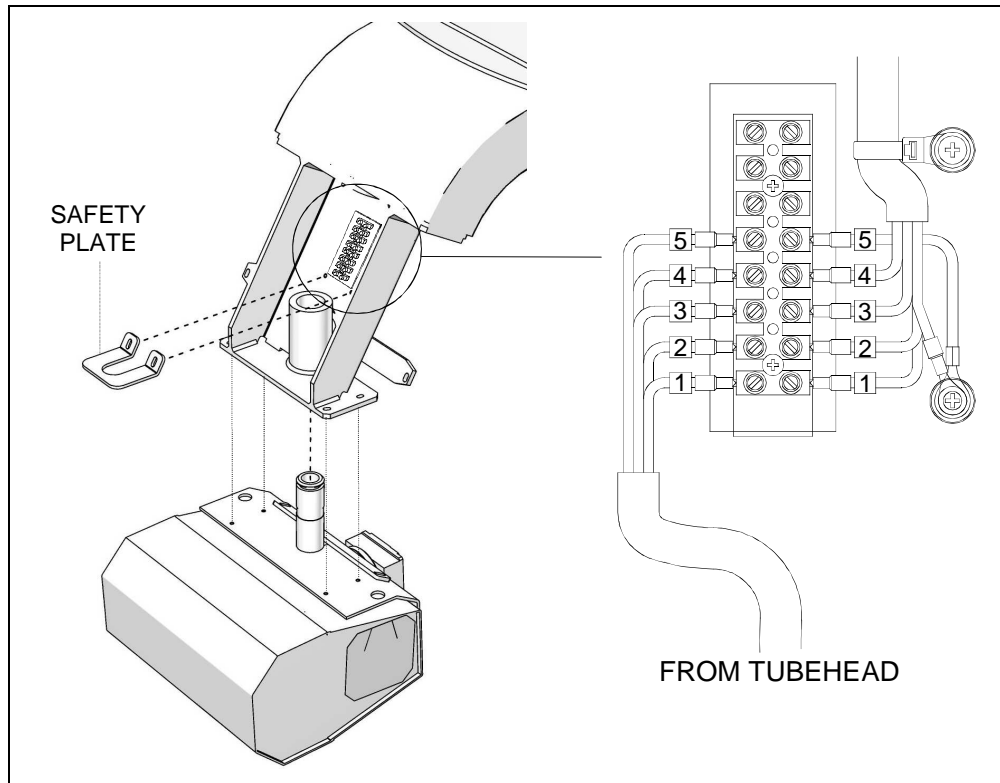
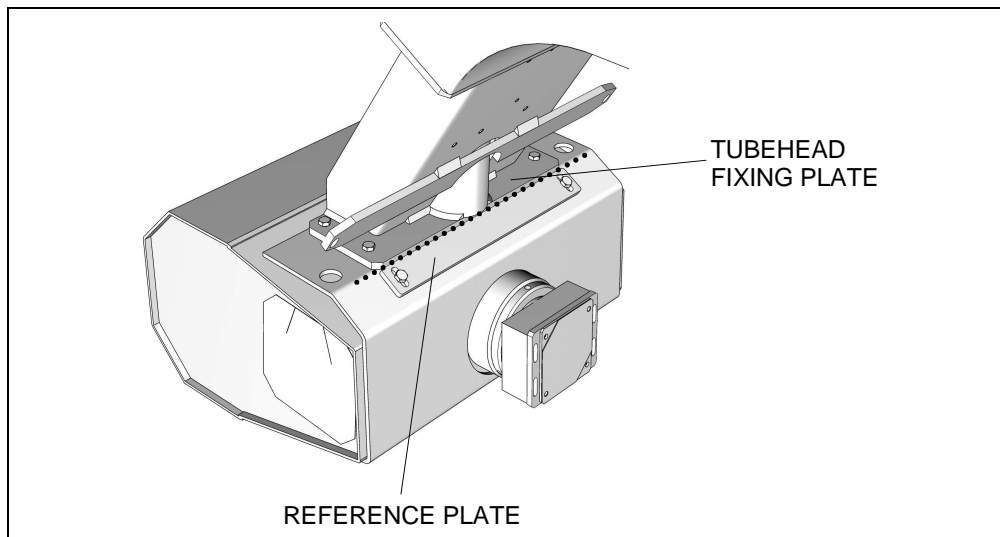

Figure 6-5
Figure 6-6
- 11.** Assemble the tubehead by first inserting the cables and then the pin into the fastening bushing; secure it with the safety plate (Figure 6-5). Fix the tubehead with the four screws so that the reference plate is fully in contact with the tubehead fixing plate (Figure 6-6). Wrong mounting will affect on the X-ray beam centering.